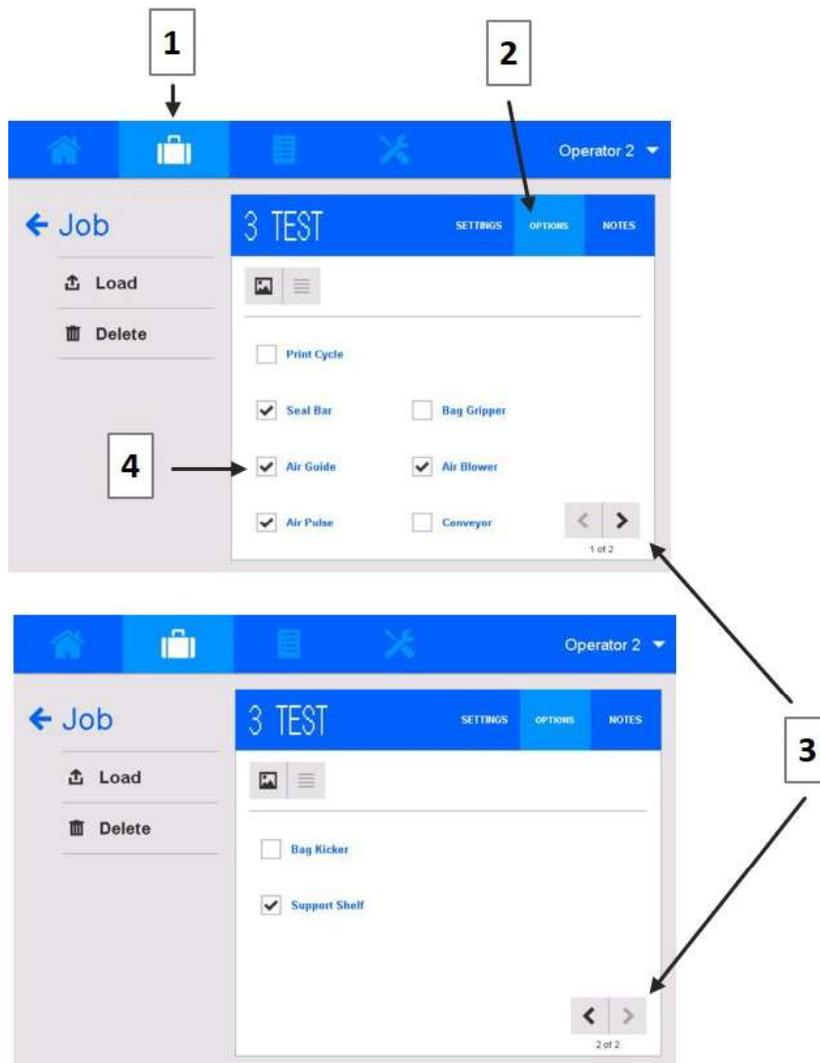

FIGURE 3-56. OPTIONS MENU
To access job OPTIONS (Figure 3-56), tap the JOB menu icon (item 1). Next, tap the OPTIONS menu icon (item 2). Notice that there are two pages of options (item 3). Each option name has a checkbox (item 4) to its left. A checkmark indicates that an option is enabled.